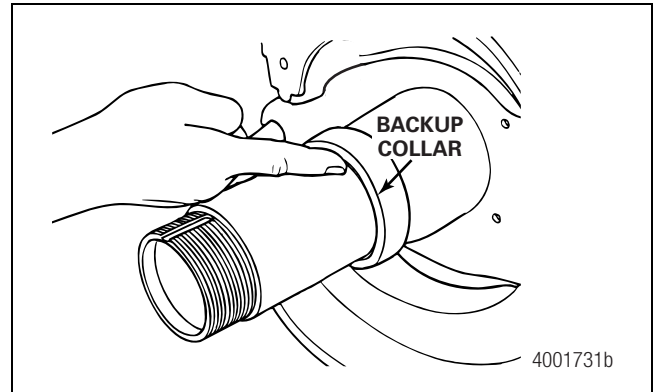

**Figure 16**
4. Measure the collar to ensure the diameter is 4.623-4.630-inches (117.42-117.6 mm). Figure 16.